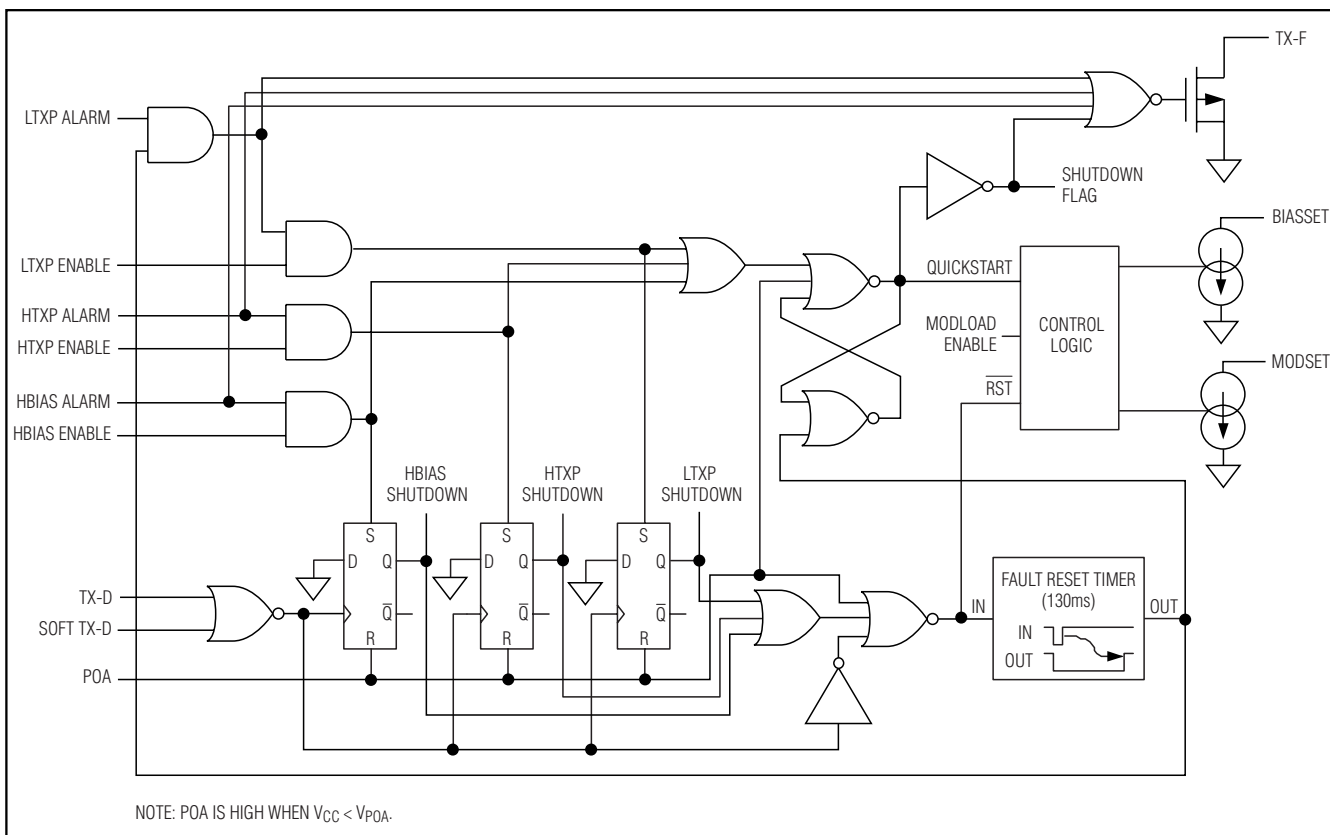

Figure 13. Quick Trip Logic Diagram
The DS1861 has a VCC monitor plus three programmable quick-trip (QT) fault monitors (Figure 13) that can trigger the TX-F output. The QTs monitor for high transmit power (HTXP), low transmit power (LTXP), and for high bias current (HBIAS). All the QTs feature programmable trip levels, an alarm disable, and a shutdown enable to determine if the enabled QT alarm shuts off the IBIASSET and LMODSET outputs.
The high and low transmit power quick-trip thresholds are each programmed by 3 bits that select one of seven different levels as a function of the expected IBMD current. Each QT monitor can be disabled by programming all three bits to zero. Disabling a QT by programming its control bits to zero prevents the QT alarm flags from ever being set, which consequently prevents that monitor from asserting the TX-F output, latching the device into a shutdown condition, or setting the alarm bits in the Status register. The HTXP and LTXP enable bits can be used to prevent the transmit power level QTs from causing shutdown while allowing the TX-F output to be set to flag the system of a transmit power fault condition. Figure 13 shows the shutdown logic. Tables 1 and 2 show the QT thresholds as a function of IBMD current-set point.